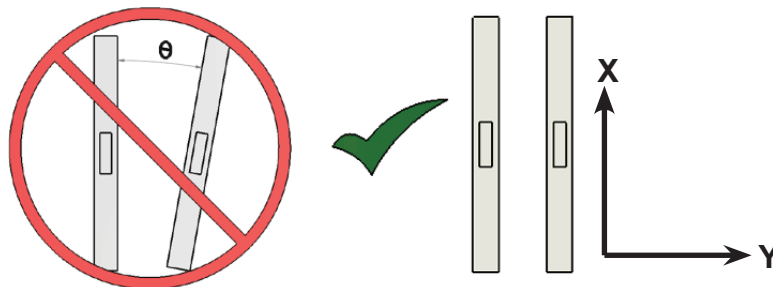

Figure 8: (Left) Angular misalignment; (Right) Proper alignment.
2. **Are the actuators mounted at a consistent distance apart from each other from one end to the other?** Misalignment in this plane will apply an unfavorable side load in the Fy-axis on the bearing system and if severe, may cause the units to bind. (See figure 8.)